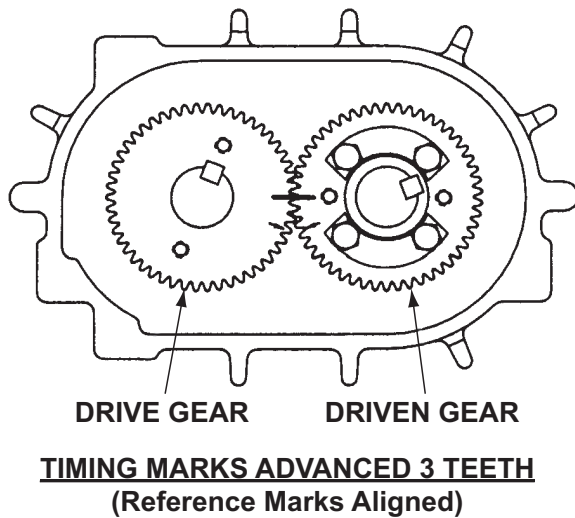
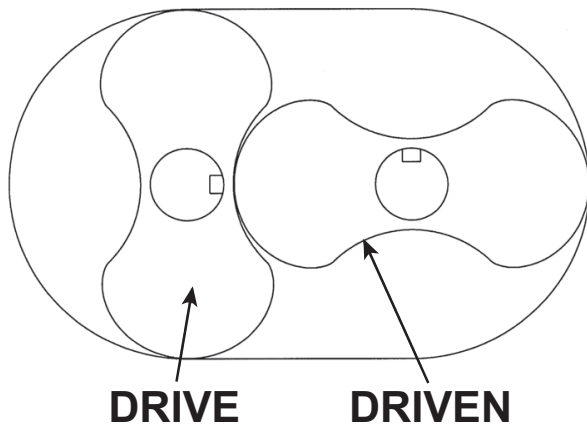

Figure 8-3 – Timing Marks Advanced Three Teeth
Figure 8-4 – Keyway Position
8. Align the timing marks on the gears (see **Figure 8-3**). Rotate the drive gear clockwise approximately three teeth, and mark a matching reference line on each gear as shown in **Figure 8-4**. This gear position is necessary so rotors will clear and not jam. Do not allow the gears to move from the matched reference line while pulling. Use a light rocking motion to make sure that the lobes have not jammed. Remove the driven gear first, and then remove the drive gear.
2. Stand the rotors on a press with the drive rotor on the left, making sure the keyways are properly positioned as shown in **Figure 8-4**. You may use the drive end plate as a temporary fixture to support the rotor lobes while pressing on the bearings and gears.
- Lubricate the shafts and keys, and press the drive gear (right hand helix) on the drive rotor. To install the driven gear, align the reference marks as shown in **Figure 8-3**. Tap the gear with a mallet to start, and then press the gear until seated.